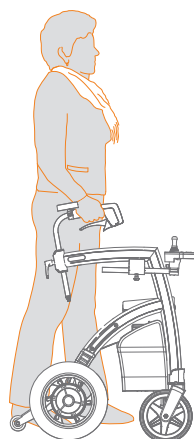

Figure 25: Walk upright close to the rollator.
- b. Stand in between the handles while walking. This way you walk as close as possible to the walker, which offers the most support **(Figure 25)**. You could lean on the Rollz Motion Electric if necessary.